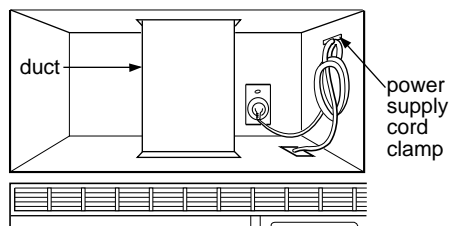

Figure 34
7. Use power supply cord clamp to bundle the power supply cord. Install the power supply cord clamp, using a screw as shown in Figure 34, to inside of the cabinet.